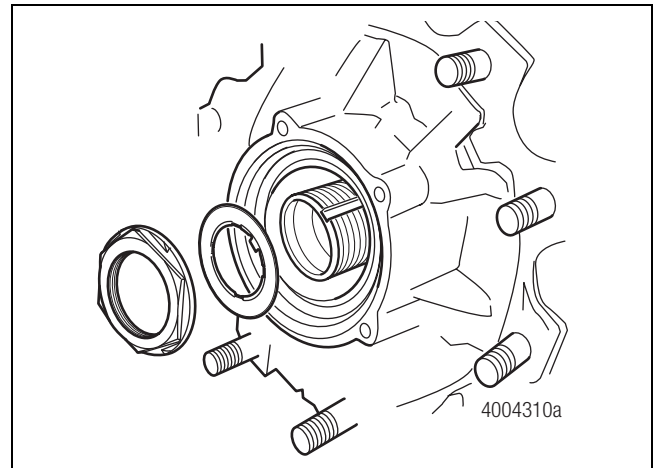

Figure 4.14
- Remove the spindle nut and retaining washer. Because of the high installation torque, a torque multiplier may be useful in removing the spindle nut. Figure 4.14.